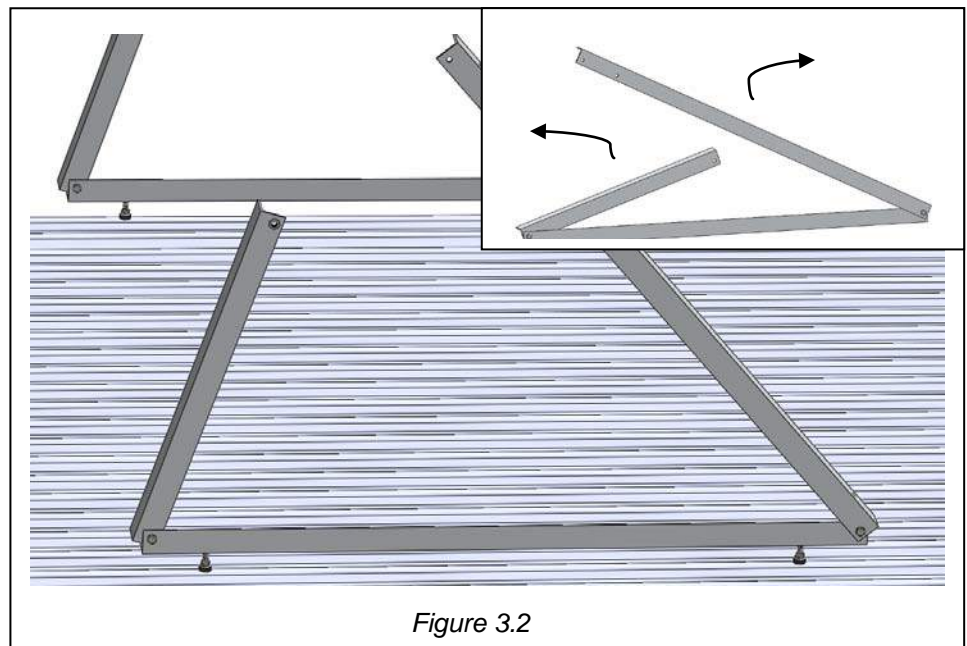

Figure 3.2
- Open the folded Triangle Bracket as Figure 3.2 shown. Connect Bottom Support on the foundation bolt.